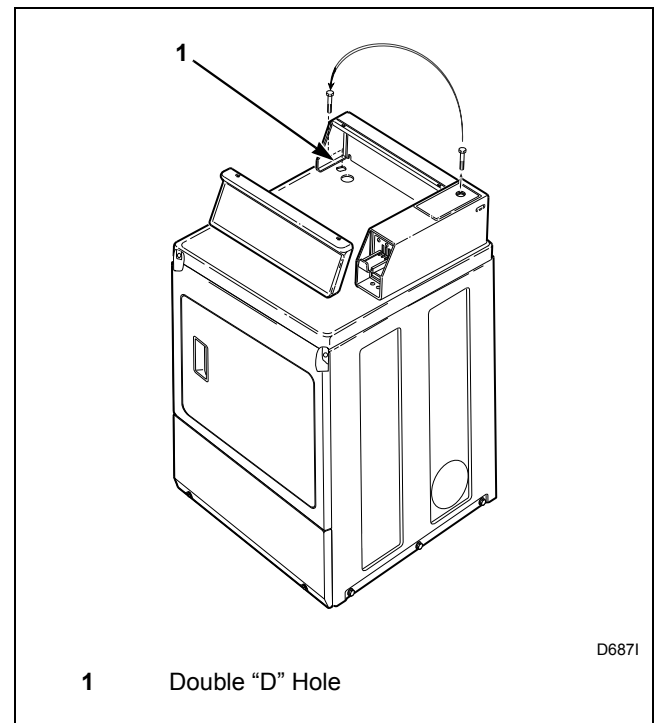

Figure 29
1. Remove the Phillips head screw from service door. (Refer to *Figure 29*.)